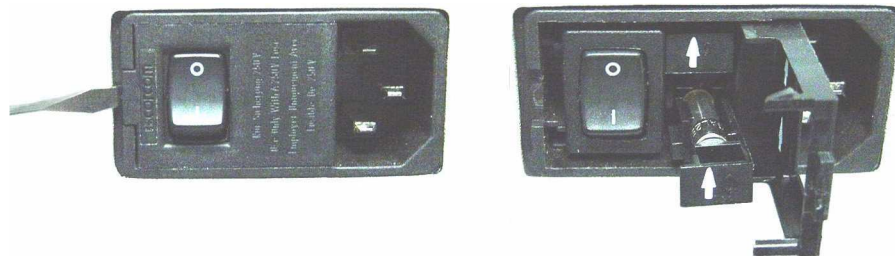

Figure 4-1. Fuse Holder within Input Module
2. Using a small flat-blade screwdriver, carefully pry under the tab above the rear panel power switch to open the cover and gain access to the fuse holders as shown in the Figure 4-1.